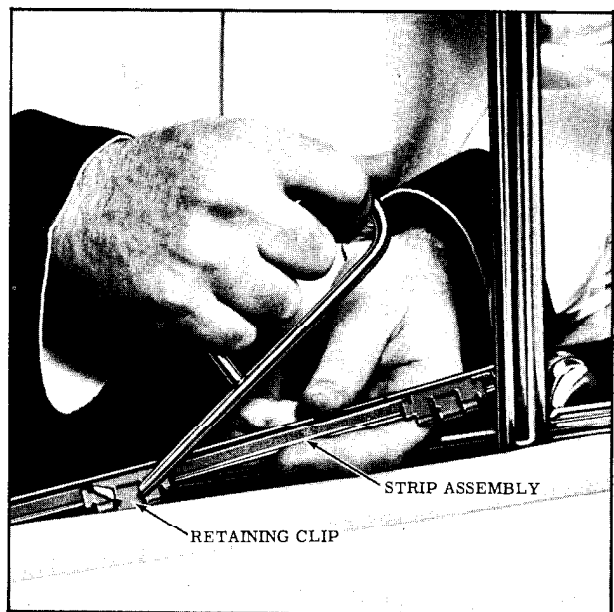

Fig. 17-2 Door Glass Run Channel Outer Strip Assembly -- Inner Typical
3. With a hooked tool, carefully pry up inner edge of strip assembly at clip locations and remove assembly from door. (Fig. 17-2)